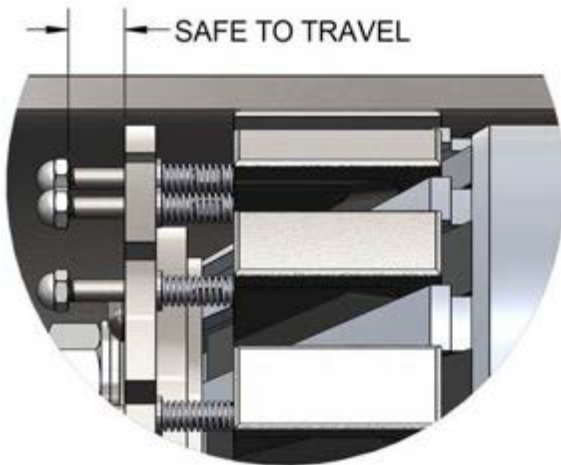
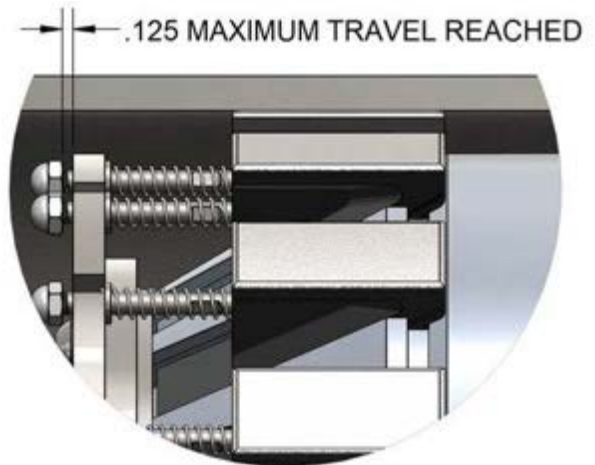

Figure 9: Wedge Grippers Safe to Travel
Figure 10: Wedge Grippers Maximum Travel Reached
CAUTION: When the plug is being used for pressure testing, it is crucial to closely monitor the travel of the **Wedge Gripper Nuts (14)**. As illustrated in Figure 9, pressure can be applied to the system when the **Wedge Gripper Nuts (14)** are at least 1/8 inch away from the **Spring Plate Halo (13)**. However, as shown in Figure 10, no further pressure can be added to the system once the **Wedge Gripper Nuts (14)** have reached their maximum travel.
CAUTION: When using the plug for pressure testing, closely monitor the travel of the **Wedge Gripper Nuts (14)**. As shown in Figure 9, you can add pressure when the **Wedge Gripper Nuts (14)** are at least 1/8" away from the **Spring Plate Halo (13)**. However, as depicted in Figure 10, no additional pressure should be applied once the **Wedge Gripper Nuts (14)** have reached their maximum travel.